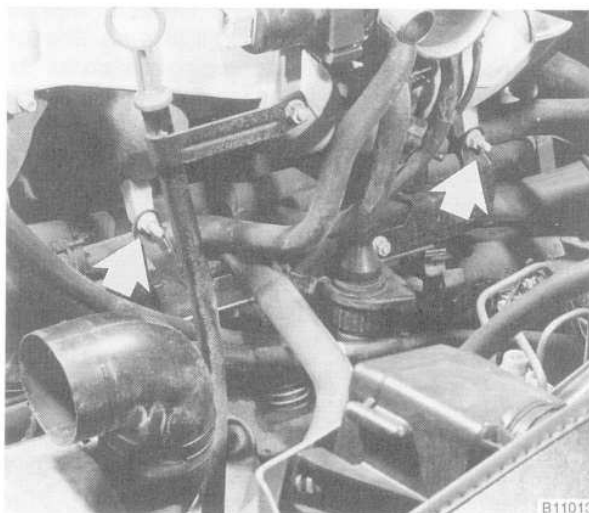

Fig. 7. Wiring harness bracket mounting nuts (arrows).
18. Remove the two nuts holding the wiring harness bracket to the intake manifold. See Fig. 7. Lift the bracket off its mounting studs and disconnect the two electrical connectors from the underside of the bracket. Disconnect and then remove the connector in the middle of the bracket.